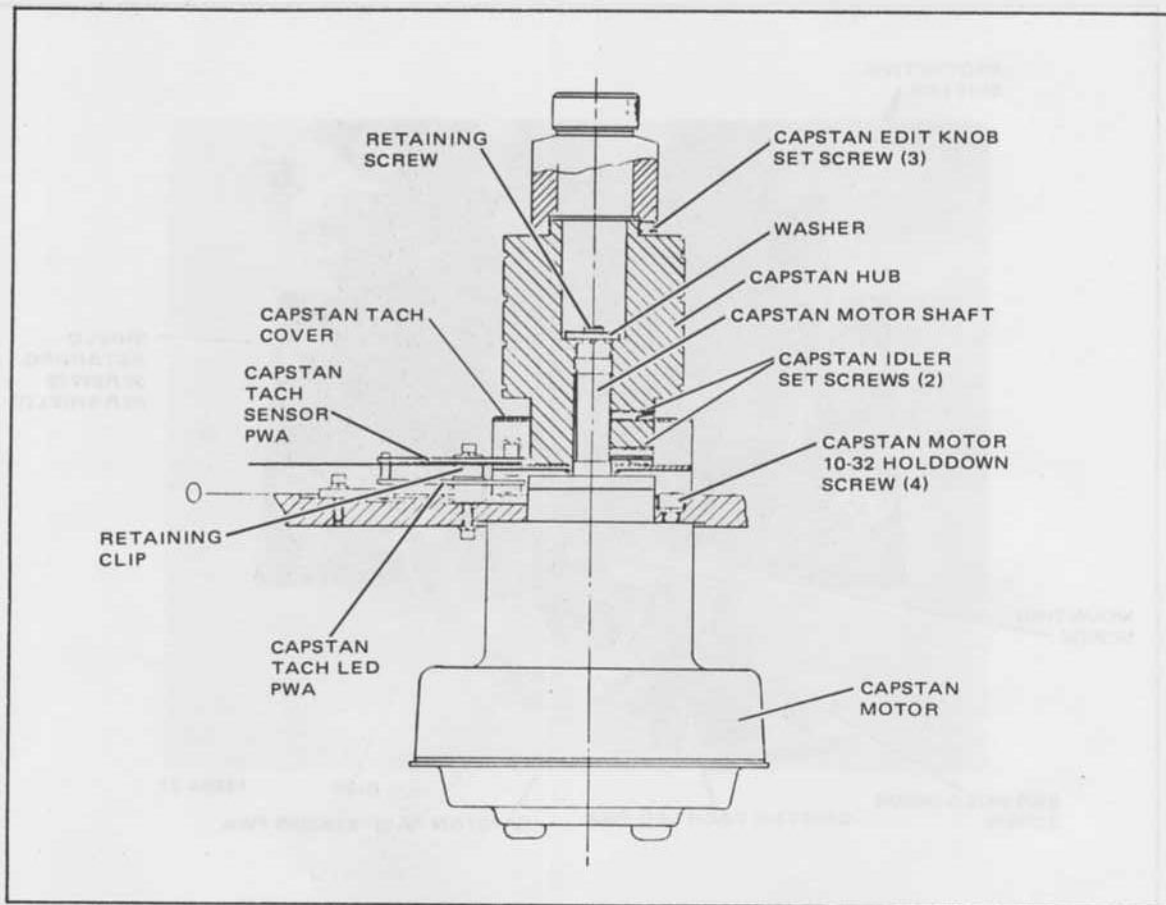

Figure 5-46. Capstan Motor Removal
- STEP 7 Make a pencil mark on inside of capstan hub and a corresponding one on the end of the capstan motor shaft. Make marking on the inside of the capstan hub line up with position of capstan idler set screws (Figure 5-46) (in the event a new hub is required during reassembly, the set screws of the new hub will be used for lining up the hub with the shaft). These pencil marks are used during reassembly to insure proper phasing of capstan hub on its shaft for minimum capstan hub runout and thus low flutter readings.
- STEP 3 Remove four capstan motor mounting screws (Figure 5-46).